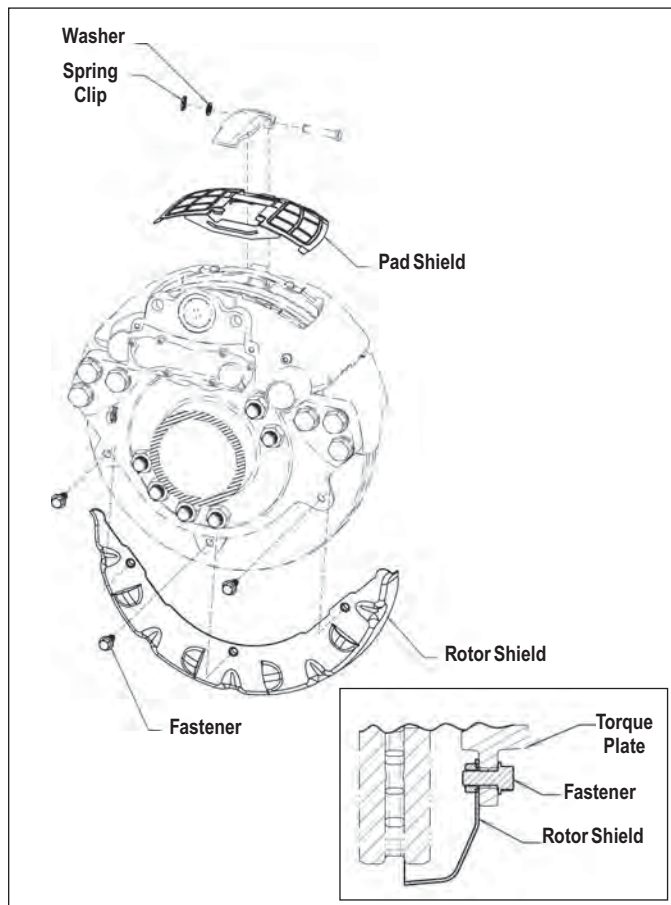

FIGURE 31 - DRIVE OR STEER AXLE EXPLODED VIEW WITH INSET SHOWING ROTOR SHIELD INSTALLATION
5.1.2 Remove and discard the spring clip and washer from the pad retainer pin. Remove and retain the retainer bar and retainer pin. Position the pad shield as shown and re-insert the retainer bar. Install the retainer pin. Use the included spring clip and washer to secure the retainer pin. Check that the pad shield is held securely in place by the retainer bar. See Figure 31 or 32.
5.1.3 Drive or Steer Axle Rotor Shields (See Figure 31). Position the rotor shield *between the torque plate and the rotor*. The supplied cap screws pass through the mounting tabs in the torque plate and install into the shield. Torque cap screws to 44 Ft. Lbs. (528 in. lbs.).